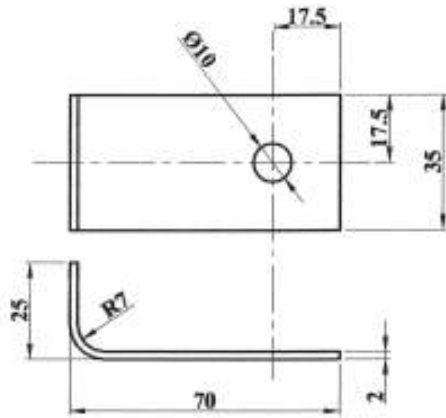

Fig: 3
- b) Calculate the develop length for bend component in fig.3. **4**
c) Draw and design a bending die for the component shown in fig. 3. 8